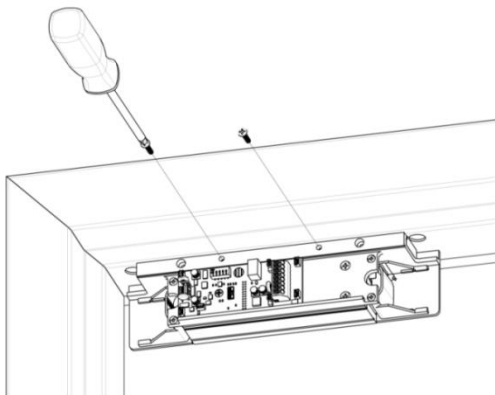

Figure 27. Installing the Lock Chassis to the Mounting Bracket
2. INSTALL the two (2) 6-32 X 3/4" Phillips pan head screws to secure the lock chassis to the mounting bracket using a Phillips screwdriver (see Figure 27, "Securing the Lock Chassis to the Mounting Bracket").